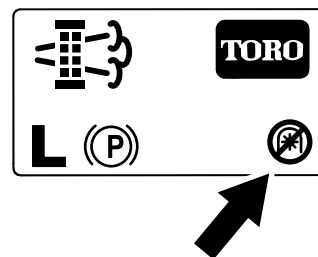

Figure 84
**Note:** The Home screen displays the PTO disabled Icon (Figure 84).
**Note:** The Home screen displays the PTO disabled icon; refer to Figure 84 in Parked Regeneration Messages \(page 48\).